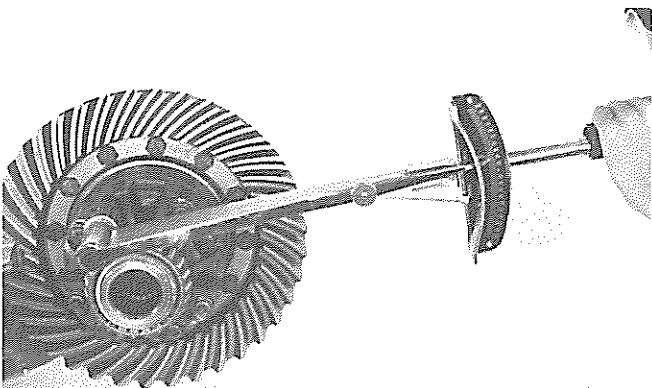

FIG. 96
- Align matchmarks and install remaining case half on other case half assembly, making sure of full gear engagement (Fig. 96). Install bolts and tighten per torque specifications.